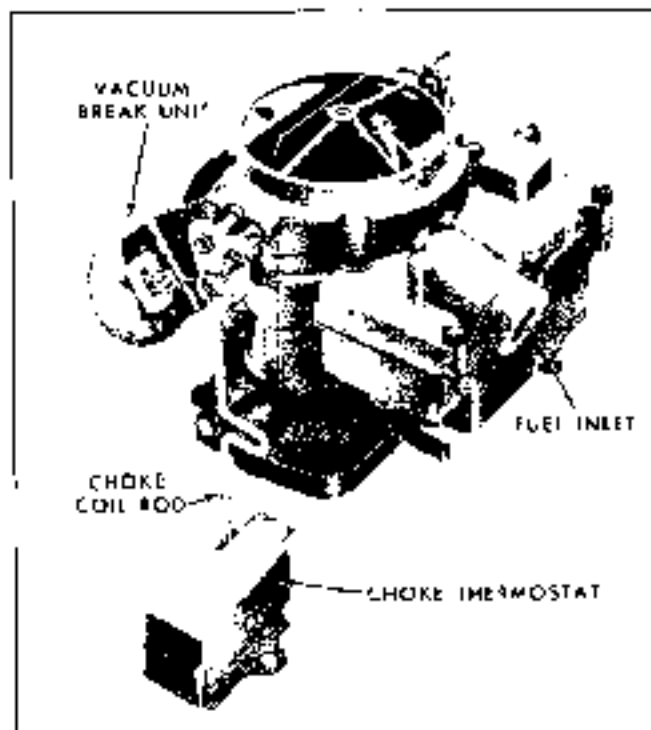

Fig. 6B-30 Rochester 2GV Carburetor
3. Detach choke intermediate rod (Fig. 6B-30) at lower end by removing clip, then detach choke intermediate rod from choke shaft by rotating until tang on rod clears slot in lever.
4. Remove retaining screw at end of choke shaft and remove choke trip lever and fast idle link and lever (Fig. 6B-40). Lever can be removed from link by turning until slot in lever will pass over tang on link. The link and fast idle cam are retained by a Truarc washer. Disassembly of these pieces will destroy Truarc washer.
5. Remove eight cover screws and lift cover from bowl (Fig. 6B-41).